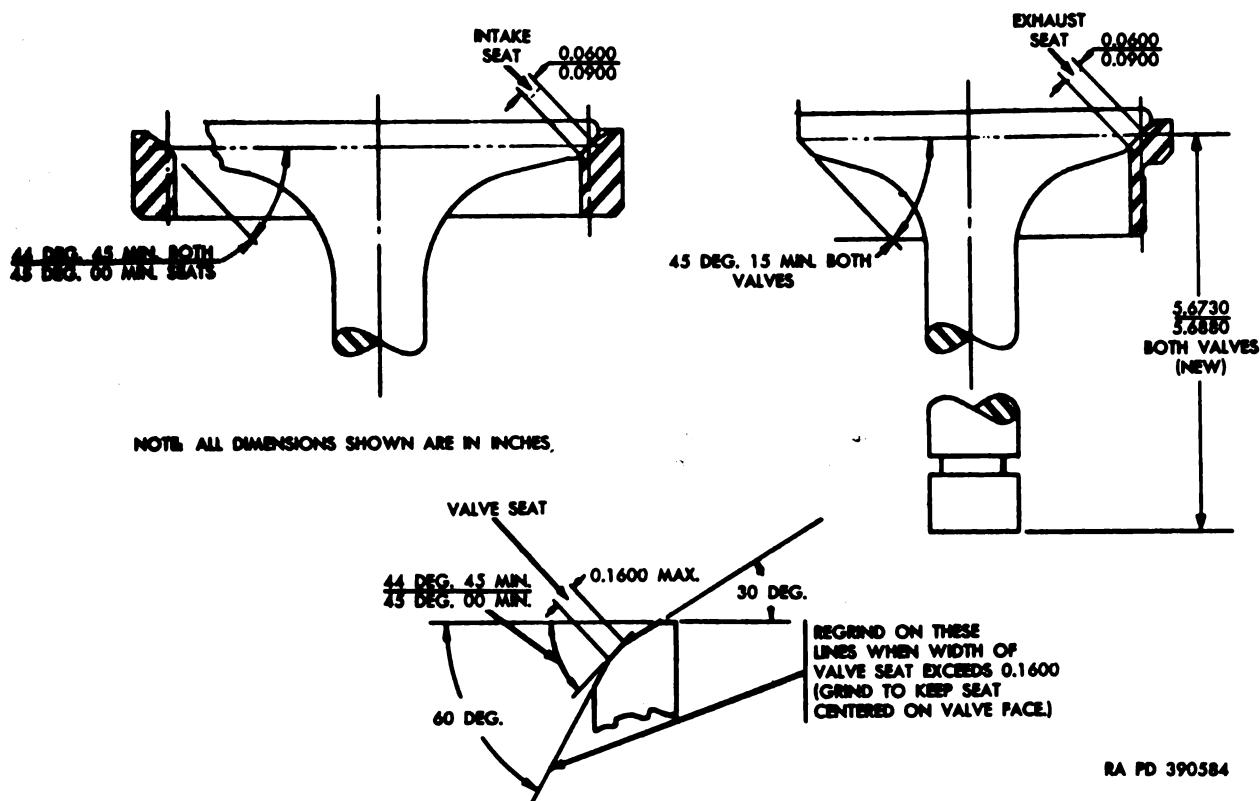

Figure 80. Valve and valve seat grinding diagram.
- (c) Grind pitted or burned valves, or valves that do not seat perfectly, to limits specified in figure 80. Replace valves that cannot be ground to these limits.
- (d) Check valve length from seat contact to tip of stem after grinding as shown in figure 80. Replace valve if length does not conform to tolerances specified in repair and rebuild standards (par. 310).
- (2) *Valve springs* (BB through DD). Replace springs if worn, cracked, set, or otherwise damaged. Replace springs not conforming to limits specified in repair and rebuild standards (par. 310).
- (3) *Valve spring retainers, valve rotor assembly, and locks.*
- (b) Replace exhaust valve rotor assembly (EE) if inner section does not rotate freely or if assembly is cracked or broken.
- (c) Replace spring retainer locks (P) if worn or cracked.
- (1) *Valve guides* (L and FF).
- (2) *Valve seat inserts.* Replace cylinder if inserts do not fit securely in cylinder. Grind inserts having burned or pitted surface or inserts having seats which do not show perfect contact with valve face. Grind inserts as described in (a) through (f) below.
- (d) When perfect contact is obtained, narrow seat on insert to width specified in figure 80 by grinding inner wall and exposed face of insert to angles specified.
(3) Cylinder bore.
(4) Camshaft bearing surface.